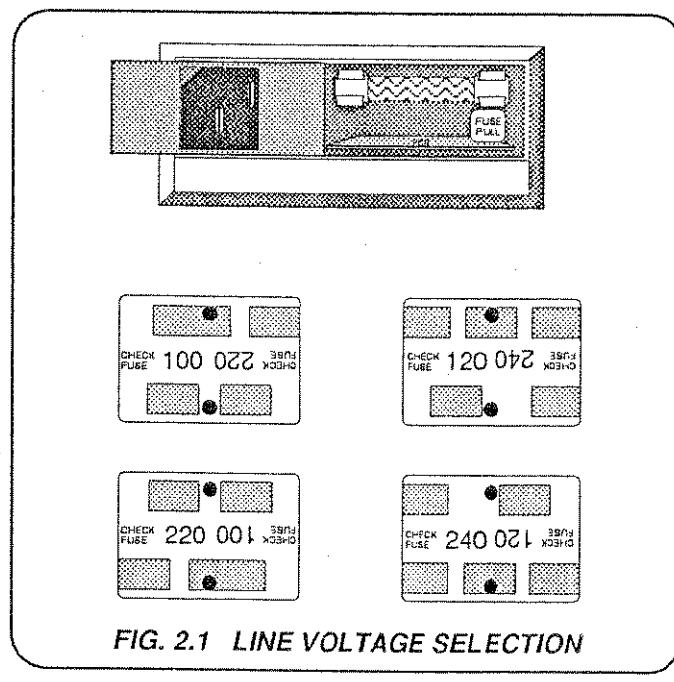

FIG. 2.1 LINE VOLTAGE SELECTION
3. Remove the PC selector board and rotate until the desired voltage is on the left of the upper surface — *see Figure 2.1 opposite.*